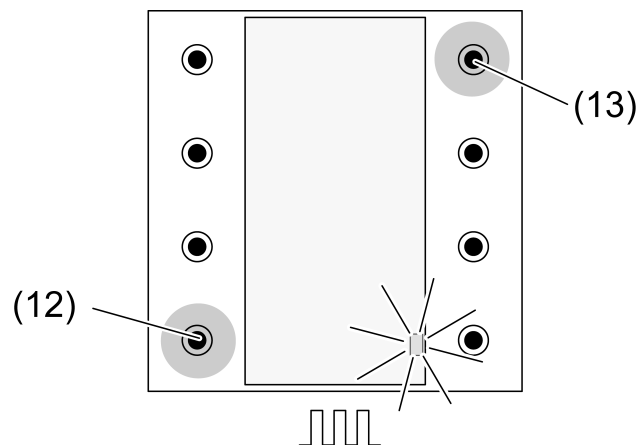

Figure 5: Activating programming mode for scene buttons
- Press the top right (13) and bottom left (12) buttons simultaneously for 4 seconds (Figure 5).
- Briefly press the top right (13) and bottom left (12) buttons simultaneously (Figure 5).